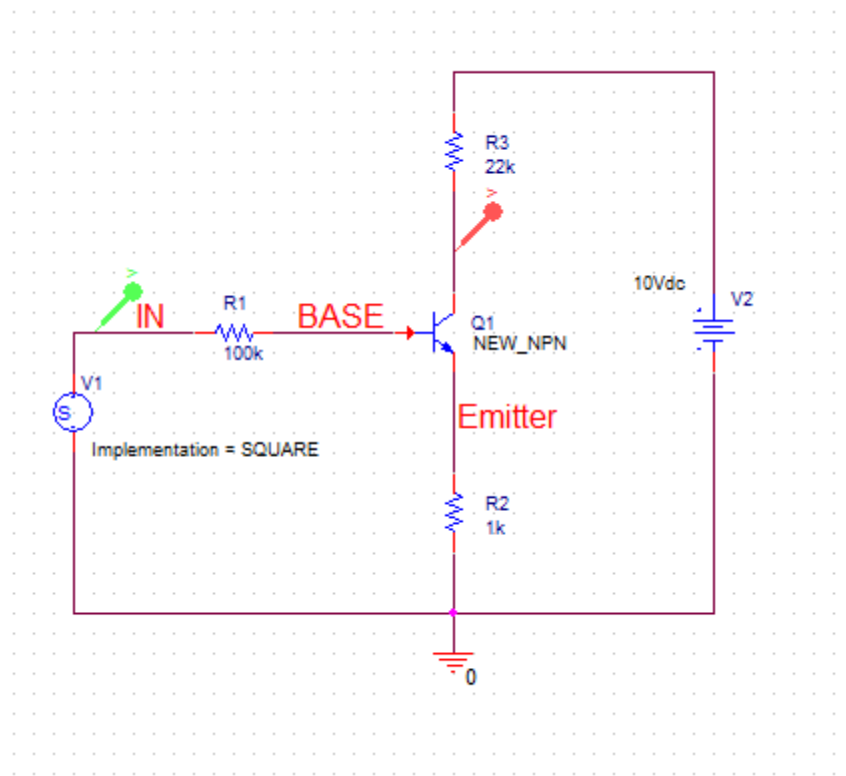

Figure 2-18: Voltage Probes Placed
21. Select the Voltage Probe in the analog toolbar and place one each on the IN and OUT wires (see Figure 2-18). The requirement for placing probes is that voltage probes are connected to wires, current probes are connected to a component pin's connection point, and power probes are placed directly on the body of the part.